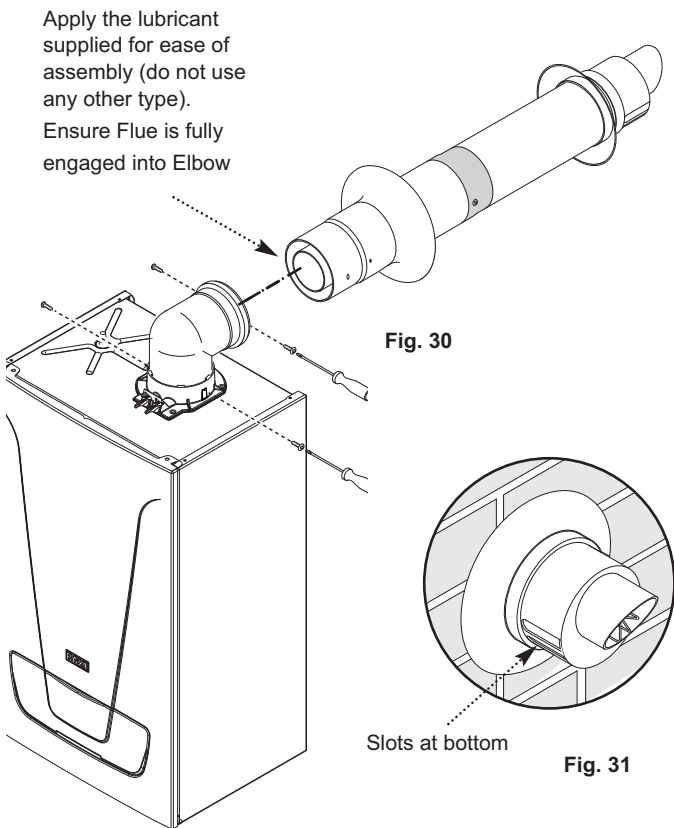

Fig. 30
11. Draw the flue back through the wall and engage it in the elbow. It may be necessary to lubricate to ease assembly of the elbow and flue (Fig. 30).
12. Ensure that the terminal is positioned with the slots to the bottom (Fig. 31). Secure to the elbow with the screws supplied with the telescopic flue (Fig. 30).